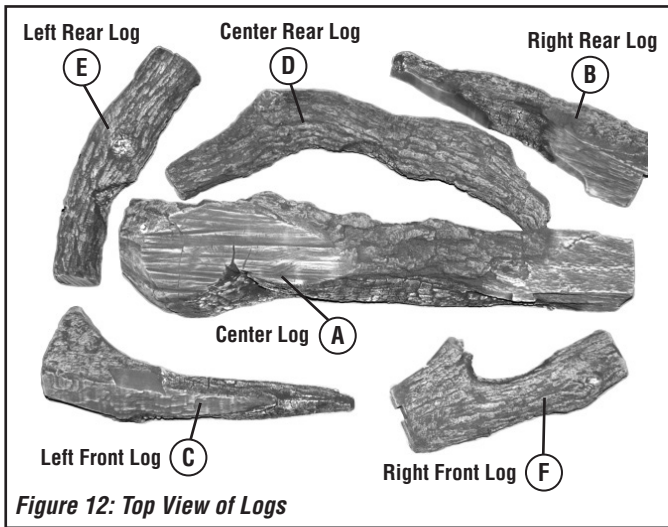

Figure 12: Top View of Logs
- **If logs are not installed according to the log installation instructions, flame impingement and improper combustion could occur and result in soot and/or excessive production of carbon monoxide (CO), a colorless, odorless, toxic gas.**
5. Install logs (reference **Figure 12** and **Table 5**).